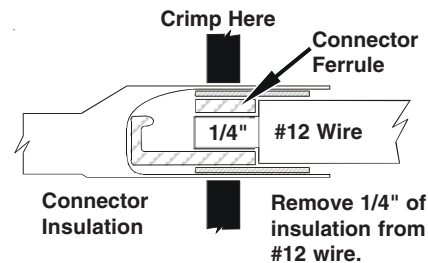

FIGURE 1
STEP 4. Install terminals on wires from +12 VDC source as shown in Figure 1. Crimp terminals with Craftsman type 4 crimping tool or equivalent. See Figure 1. Push wires onto tabs on terminal board as shown in Figure 2. If in doubt as to the polarity of the wires, connect them temporarily to tabs on circuit board and press switch on front of outlet. If light comes on polarity is correct. See Figure 3.